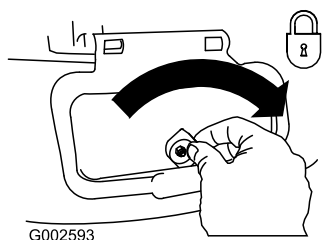

Figure 33
**Important:** Lock the side-discharge door after you close it (Figure 33).